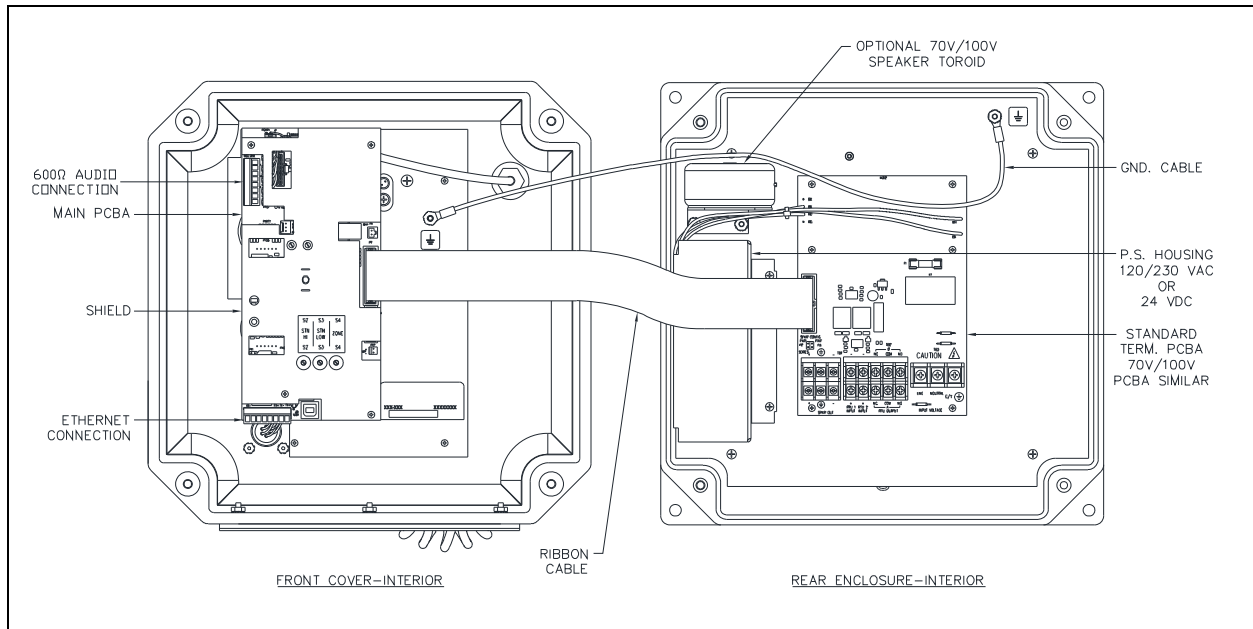

Figure 3. SP2 Zone 2/22 Station—Interior View
2. Secure it to the ground terminal located in the upper right corner at the back of the rear enclosure (see Figure 3).